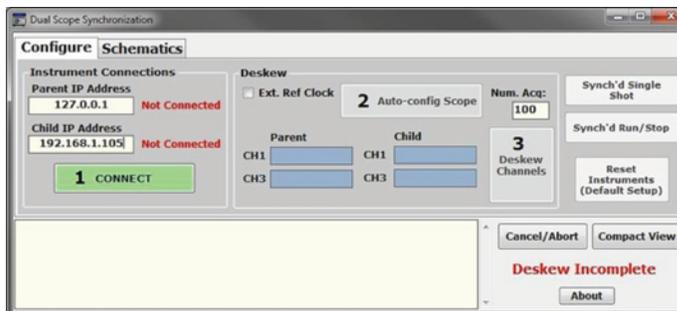

Figure 2. Configure Tab view upon initial application startup.
3. In the "Instrument Connections" section (Figure 2) of the "Configure" tab: